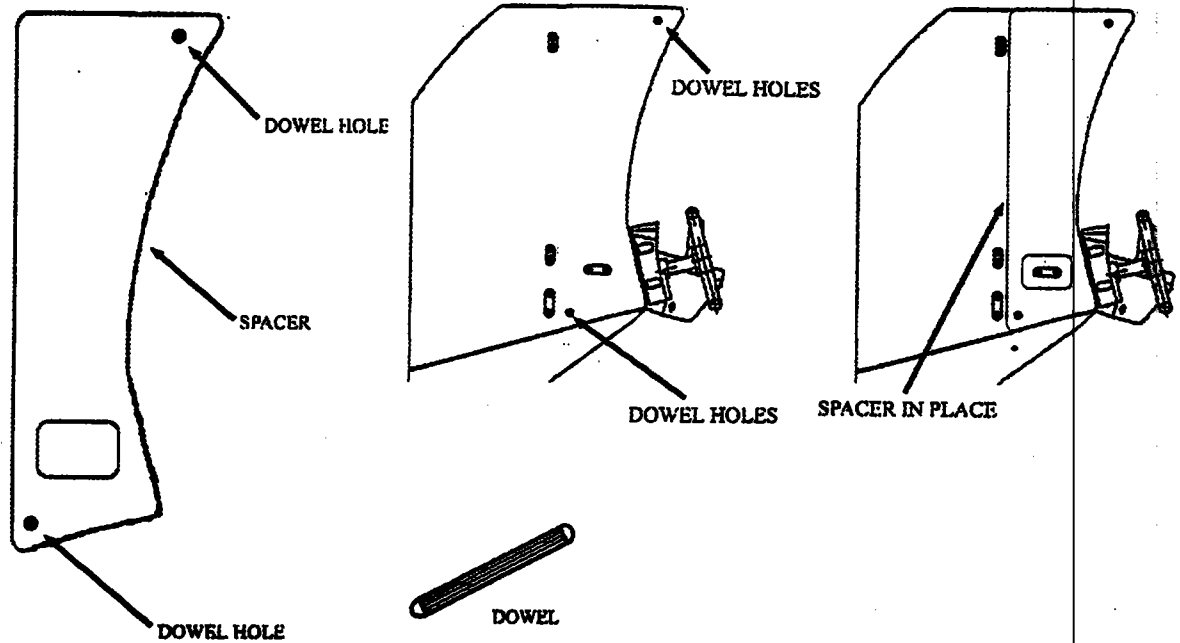

Fig. 3 Fitting the Wood Spacer to the Cabinet
- Step 2. On the Player 2 cabinet, locate the two dowel holes (using your Thumb) in the Left cheek under the Decal (see Fig 3). Insert dowels provided by puncturing Decal and tapping them into position. Fit the wood spacer provided (DYN-0015UK) onto these dowels with the curved edge facing the front.